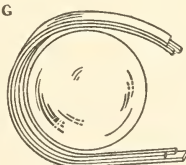
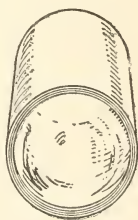

Fig. 344
Fig. 343
**Mount the Lens** in a can or mailing-tube jacket (Fig. 343). If you use a can, remove the bottom. If the lens is smaller in diameter, make a band of cardboard strips to fit around the edge, as shown in Fig. 344, and glue these
FIGS. 343 and 344.—Details of Lens Mounting.